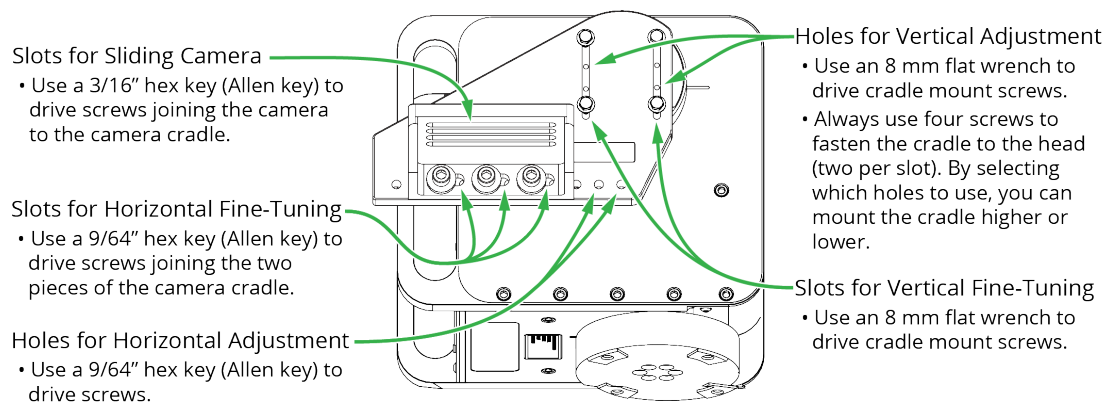

Figure 4 - Payload Balancing Adjustment Features
The head and camera cradle are designed to make balancing easy. **Figure 4** illustrates the following payload balancing adjustment features:
4. Use the horizontal adjustment features (**Figure 4**) to move the payload away from the direction it tilted, and then test again.
4. Use the vertical adjustment features (**Figure 4**) to raise or lower the payload as required, and then test again.